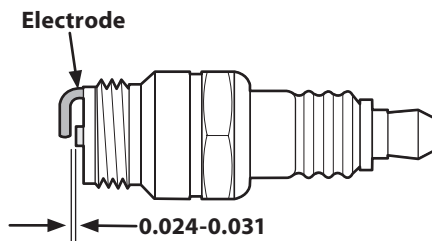

Figure 6-10
- Measure the plug gap with a feeler gauge. Correct as necessary by bending electrode. See Figure 6-10. The gap should be set to 0.024-0.031 in.